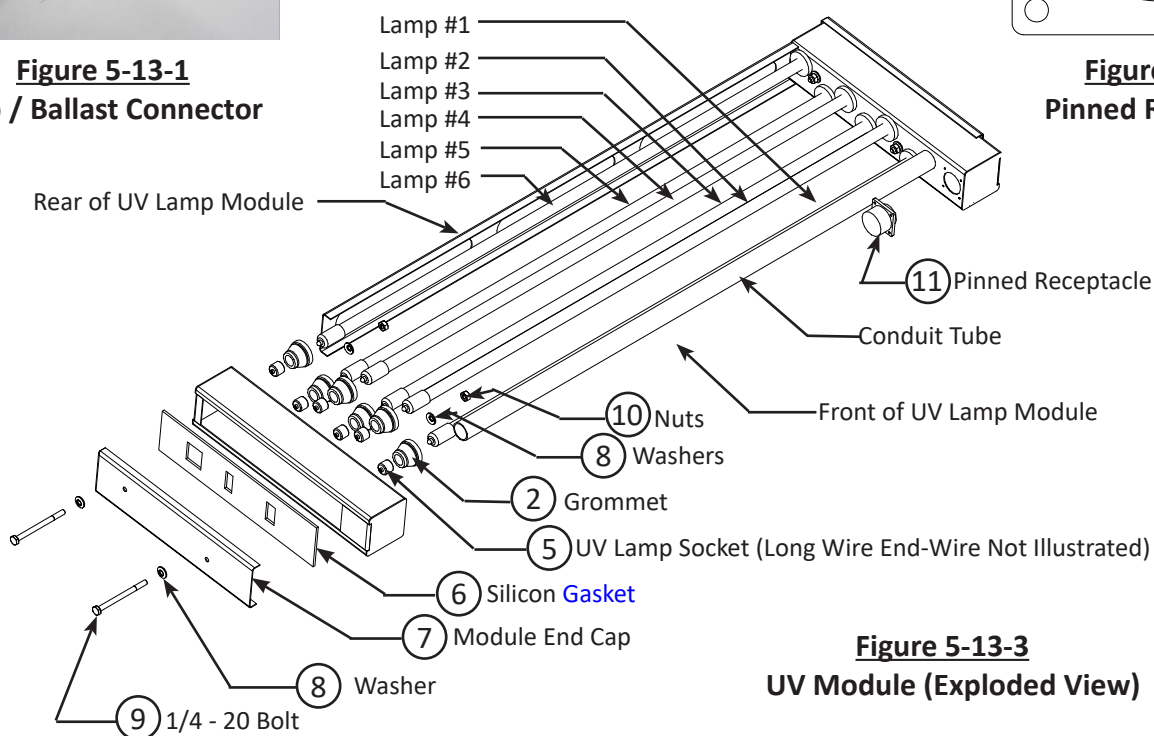

Figure 5-13-3
6. Referring to Figure 5-13-3, remove the two bolts pc #9, washers, pc #8, Module End Cap pc #7, and the Silicon **Gasket**, pc #6, from each end of the module.
8. Remove the four screws that hold the base of the Pinned Receptacle, Figure 5-13-3 pc #11, to the Lamp Module and pull the base away from the Module until the wires are exposed.
7. Replace the UV Socket Long Wire by tying the end of the cut Long Wire to the socket end of the new UV Socket Long Wire and pull it through the conduit wire way (Refer to Figure 5-13-3).
6. Referring to Figure 5-13-3, Remove the two bolts pc #9, washers, pc #8, Module End Cap pc #7, and the Silicon Gasket, pc #6, from each end of the module.